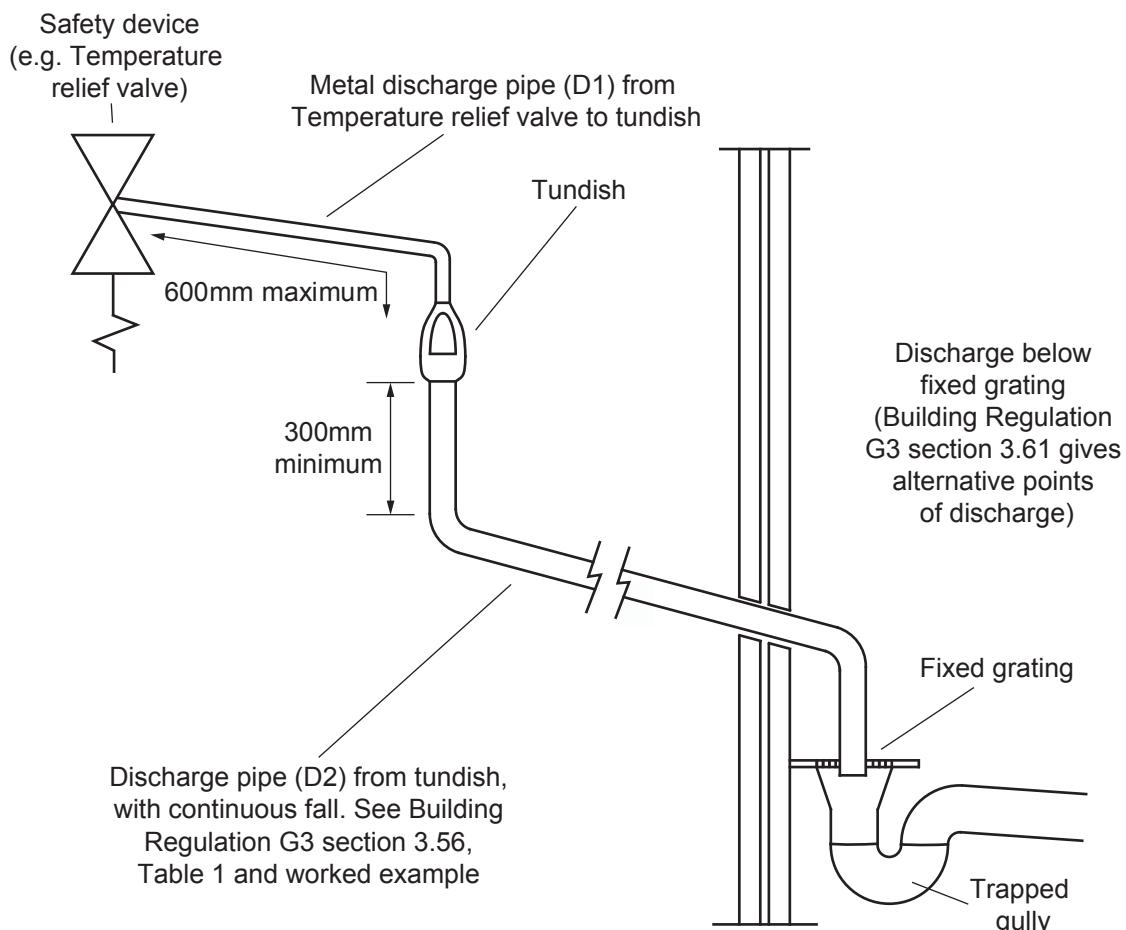

Figure 11: Typical discharge pipe arrangement (extract from Building Regulation G3 Guidance Section 3.50)
3.54 The tundish should be vertical, located in the same space as the unvented hot water storage system and be fitted as close as possible to, and lower than, the valve, with no more than 600mm of pipe between the valve outlet and the tundish (see Fig. 11, page 18).
- (a) have a vertical section of pipe at least 300mm long below the tundish before any elbows or bends in the pipe work (see Fig. 11); and
3.58 The discharge pipe (D2) should be at least one pipe size larger than the nominal outlet size of the safety device unless its total equivalent hydraulic resistance exceeds that of a straight pipe 9m long, i.e. for discharge pipes between 9m and 18m the equivalent resistance length should be at least two sizes larger than the nominal outlet size of the safety device; between 18 and 27m at least 3 sizes larger, and so on; bends must be taken into account in calculating the flow resistance. See Fig. 11, Table 5 and the worked example.
Fig. 11 (page 18): shows a G1/2 temperature relief valve with a discharge pipe (D2) having 4 No. elbows and length of 7m from the tundish to the point of discharge.